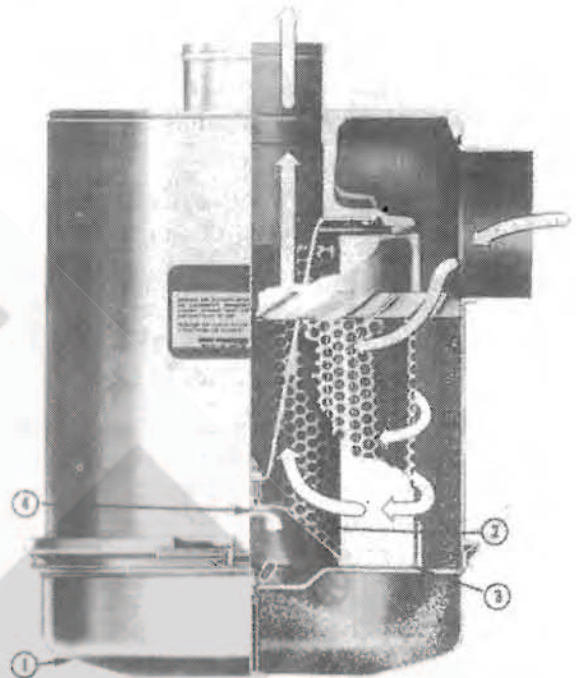
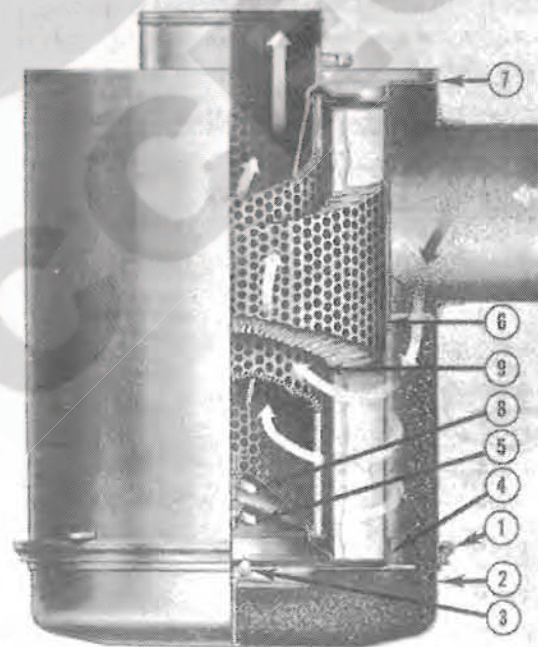

Fig. 2-9, (OM1029L). Air cleaner—heavy duty
Fig. 2-10, (OM1030L). Air cleaner—heavy duty dual element
2. Pull the element (6) down from the center bolt (4).
**Caution:** Pull the cover and the element straight out when removing them from the housing, Fig. 2-10, to avoid damage to the element.
3. Remove the gasket (5) from the outlet end (7) of the housing.
1. Loosen the wing bolt, remove the band securing the dust pan (1, Fig. 2-9 ), (2, Fig. 2-10).
2. Loosen the wing nut (2, Fig. 2-9 and 3, Fig. 2-10), remove the dust shield (3, Fig. 2-9 ), (4, Fig. 2-9 ), from the dust pan (1, Fig. 2-9 ), (2, Fig. 2-10). Clean the dust pan and shield.
3. Remove the wing nut (2, Fig. 2-9 ), (5, Fig. 2-10) securing the air cleaner primary element (6, Fig. 2-10) in the air cleaner housing, inspect the rubber sealing washer on the wing nut (4, Fig. 2-9 ), (5, Fig. 2-10).
- a. Check the air restriction indicator. If the air restriction is excessive, disassemble the air cleaner, remove the wing nut (8, Fig. 2-10), and replace the safety element (9).